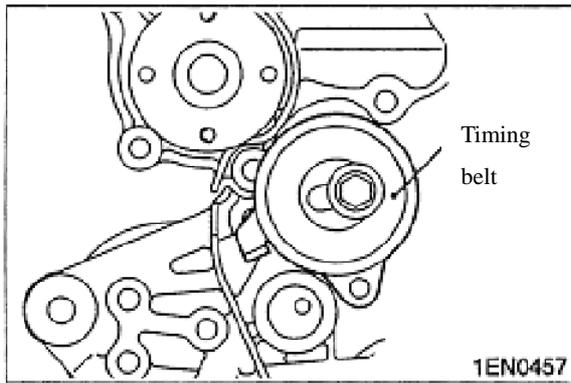

Fig.4-11.
- a Lock the timing belt tensioner in the illustrated position, see Fig.4-11.